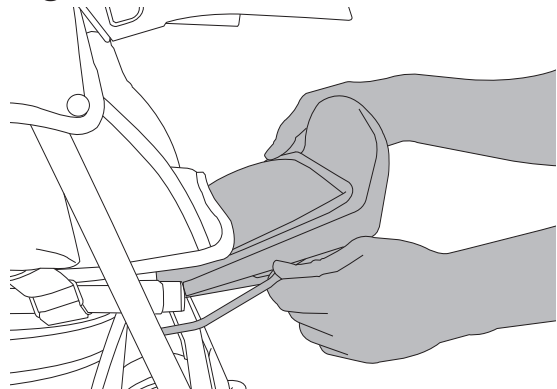

Figure 14
- To place the footrest into the horizontal position, pull up on the footrest and position the footrest lower bar into the UPPER slot at the middle of the plastic bracket on the underside of the footrest. See Figure 14.